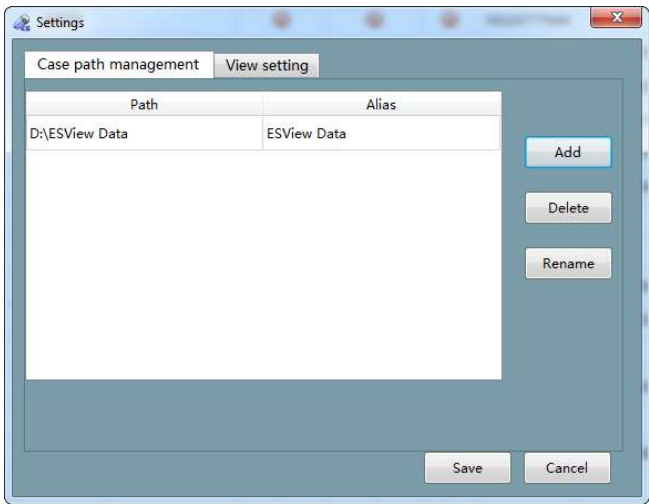
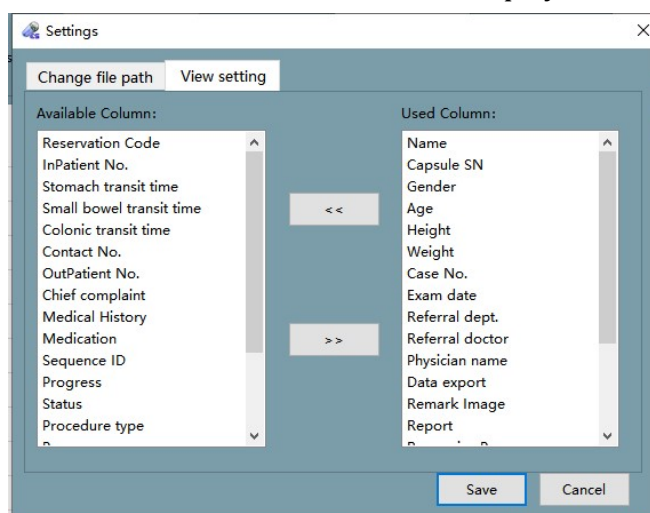

Figure 4-61: Add Case Data Storage Path Interface
Figure 4-62: View Setting Interface
- 2. Click  to access the add case data storage path interface (Figure 4-61). Click “Add”, “Delete”, or “Rename” button to add, delete, or rename the case data storage path. Click “Save” to save changes in settings or click “Cancel” to cancel changes.
3. The software automatically searches two levels of directory under the case data storage path and displays the patient information found in the case list. In the add case data storage path interface (Figure 4-61) click “View setting” to access the view setting interface (Figure 4-62). Drag the mouse or click the “<<” or “>>” buttons to select the data fields to be displayed. The date fields in the “Available Column” box will not be shown in the case management interface, while the data fields in the “Used Column” box will be displayed.